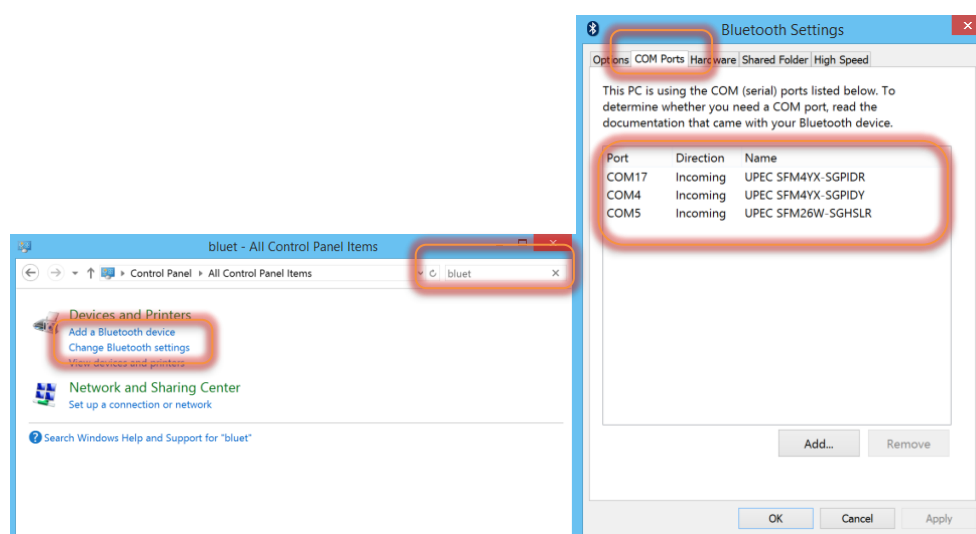

Figure 28: COM port identification for Bluetooth devices.
2. Open the Windows Control Panel (Figure 28) and search for 'bluetooth'
3. Click on the "Change Bluetooth settings. This opens another window (Figure 28)